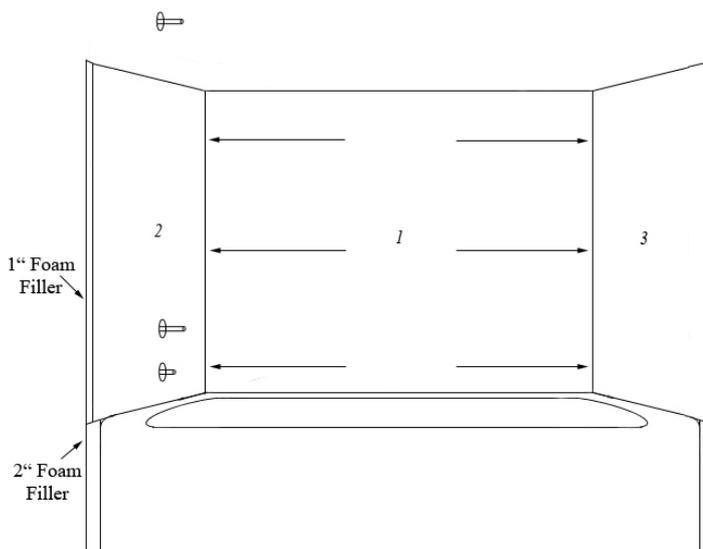

Figure 2.
- For proper fit, measure back wall horizontally in three areas: top, middle and bottom (see Figure 2). Dry fit the back panel (item 1) making sure that bottom edge is flush with the tub and each side is flush with the adjacent walls. Mark and trim edges as necessary. Panel should fit loosely from side to side.
- Check for squareness by placing the 30" facet end panel (item 2) so that the side is flush with the back panel. If there is an uneven gap between the end panel and the tub, mark (with crayon or wax marker) the uneven edge and trim with a jigsaw or block plane. Use a block plane or file to smooth the cut edge. Panel should extend past the tub approx 1" - 1 1/2". Use 1" & 2" Foam Filler Piece to support Leg Trims - items 8 & 9 (see Figure 2).
- To cut the holes for the plumbing fixtures, set the panel onto the tub and fit flush against the back wall panel. Slide the panel towards the plumbing pipe and press firmly to make a mark in the back of the panel (make sure pipe comes out straight from the wall). Repeat for each plumbing fixture on the wall (item 2).
- Install the water wall, making sure that all holes and edges are properly aligned (see Figure2).